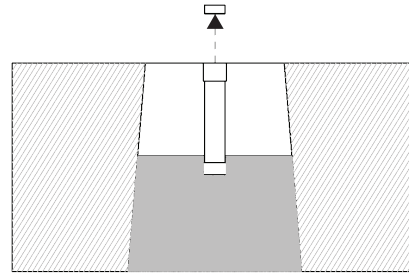

Figure 2
**STEP 3:** Remove Anchor Sleeve Cap (Item #1). Insert both Anchor Sleeves (Item #2) into the hole in the concrete. See Figure 2. The Anchor Sleeves should be 22' apart from the inside face of each post.
- STEP 2:** Slide Height Collar (Item #4) onto each pickleball post with the eyebolts facing inward, on the same side as the lacing rod. See Figure 2.